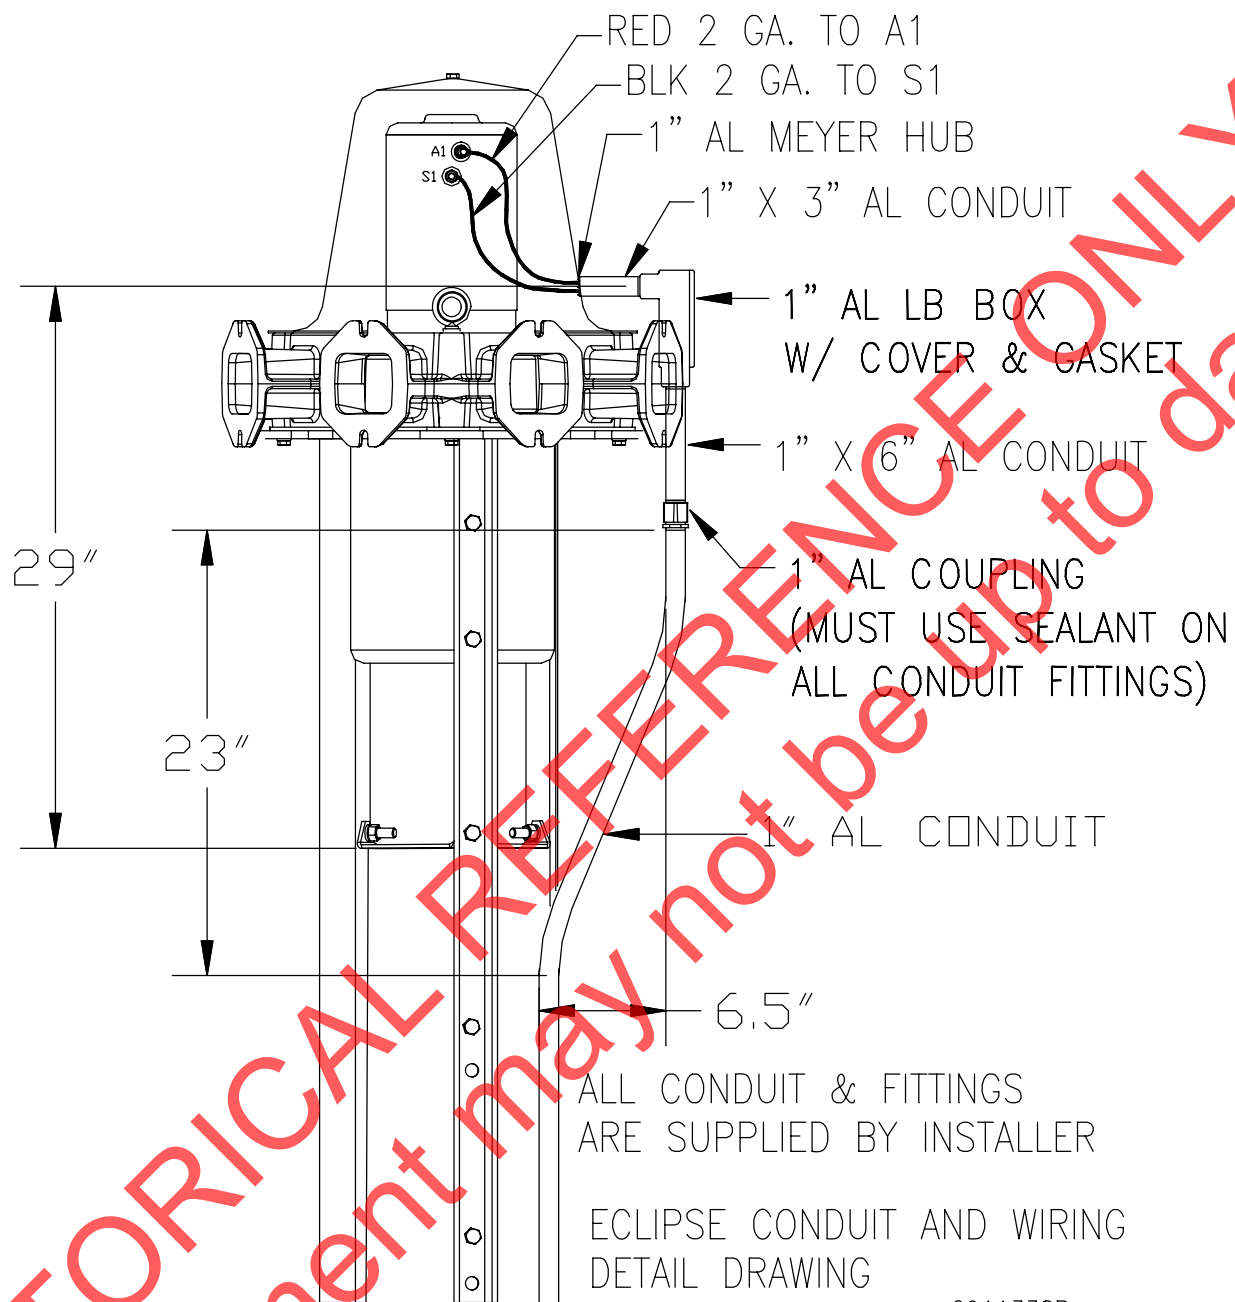

Figure 3-3. Conduit Connection and Wiring Detail
5. Refer to Figure 3-3 for running conduit to the siren and follow the instructions provided with the siren controller for making electrical connections – omitting any references to rotation.
4. Refer to Figure 3-3 for running conduit to the siren and follow the instructions provided with the siren controller for making electrical connections – omitting any references to rotation.